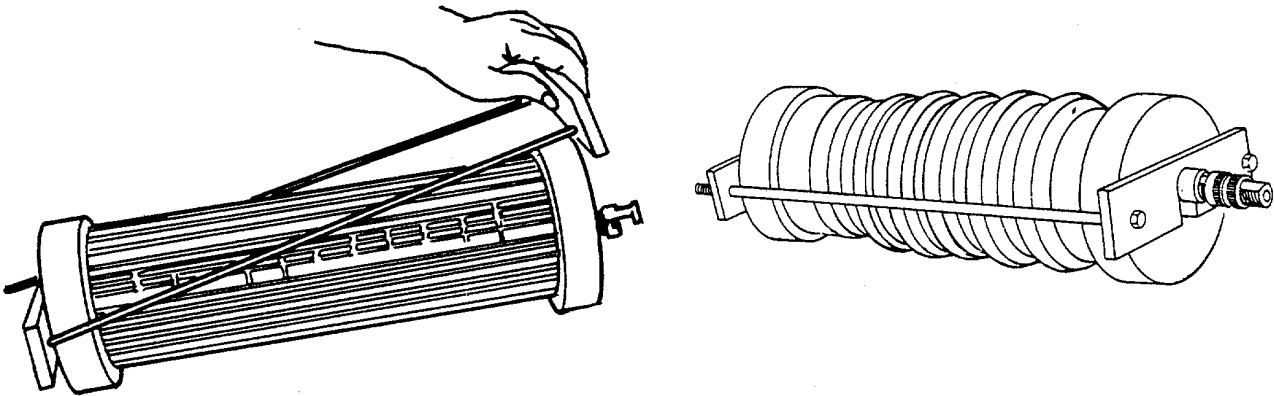
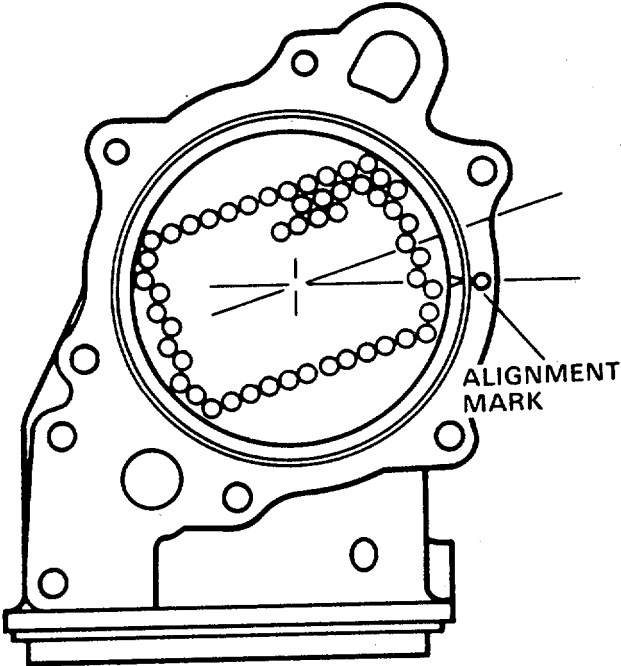

FIGURE 3-13. Tube Bundle Tester.
FIGURE 3-14. Aligning Index Marks.
- (2) Check the cooler element for damage and leaks. Use the Part No. 3375253 Tube Bundle Tester (Figure 3-13) to check for leaks. Follow these instructions:
- (b) Put the sliding plate of the fixture so that the fixture will fit over the element and end plates, Figure 3-13, left.
- (c) Put the element into the fixture. Place the fixture so that the air connection fitting goes through the notch in the fixture plate. Install locking clips into the bars of the fixture, Figure 3-13, right.
- b. Align the index mark on the element with the index mark on the housing (Figure 3-14 or 15).
Some of the elements have two index marks. They can have an "O" on the tube end plate (Figure 3-13) or notch cut into the inside diameter of the rim (Figure 3-14). Use the notch to align the element in the housing.